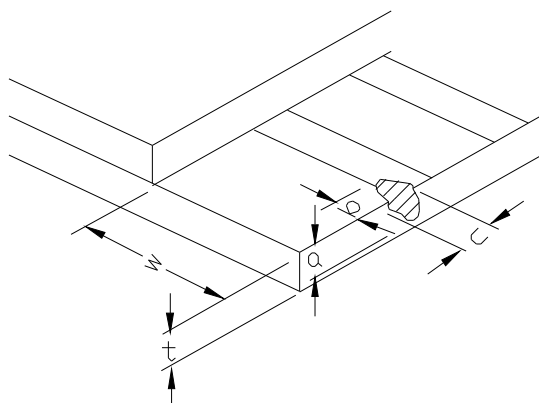

图1
3.8.2.1 Glass defect on ITO layer at ledge area (figure 1)